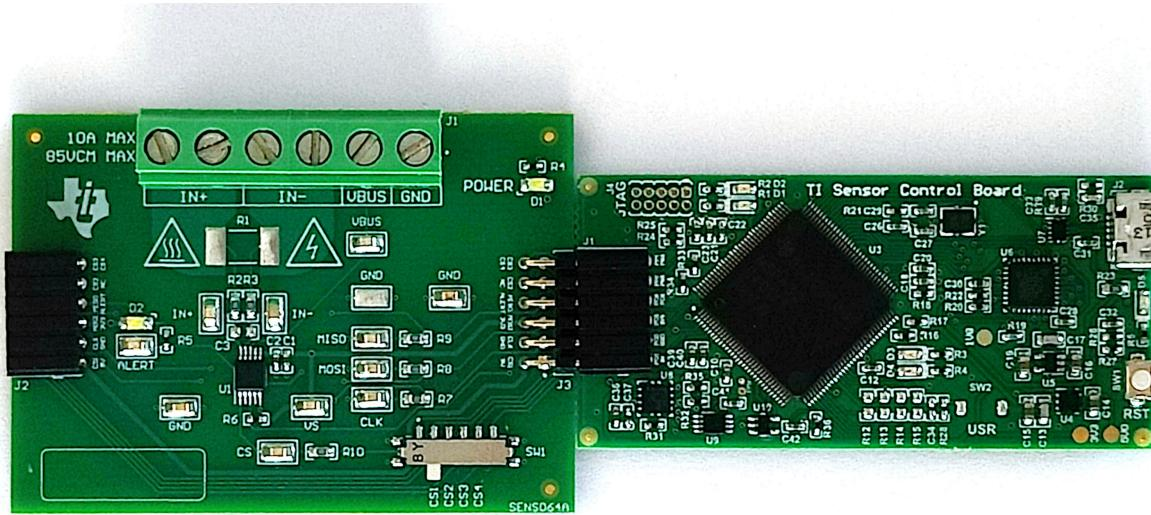

Figure 3-1. EVM (Left) Connected to SCB Controller (Right)
2. Attach a compatible EVM to the SCB Controller, such as the one in Figure 3-1.
To use the SCB Controller with an EVM, connect them together as shown in Figure 3-1.